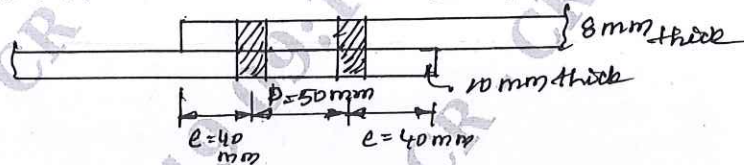

Fig.Q3(b)
- b. Determine the "bolt value" for a bolt M16 and property class 4.6, Used to connect lap joint as shown in Fig.Q3(b). Take ultimate Tensile Strength of plate 410 MPa. (10 Marks)